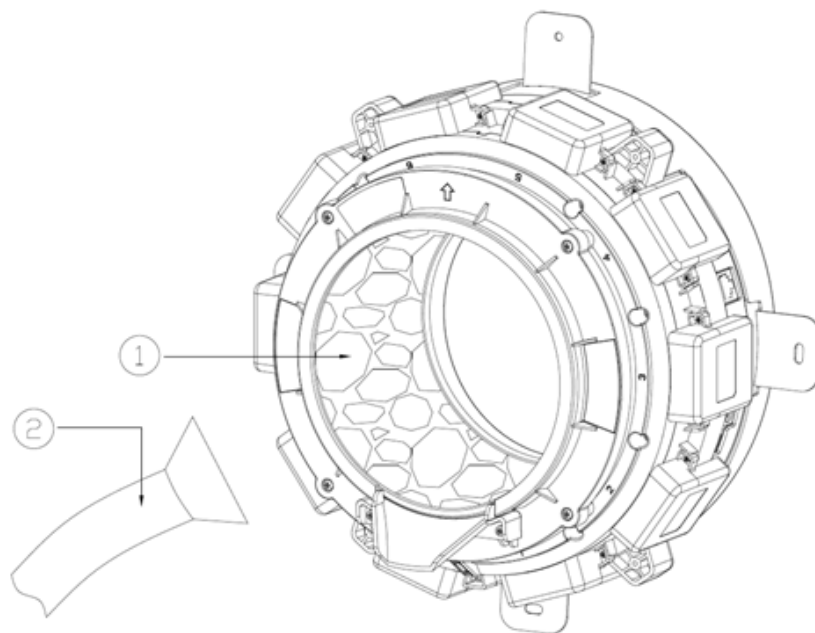

Figure 13-1
(13) Clean up the Shattered Glass Cylinder
As Shown in Figure 13-1, if the glass cylinder①(RVM100-GC) is broken, the maintenance personnel should wear protective gloves. Remove large pieces of glass①, and then use an industrial vacuum cleaner② to clean the debris inside the scanner. Finally, replace the glass cylinder ① with a new one.